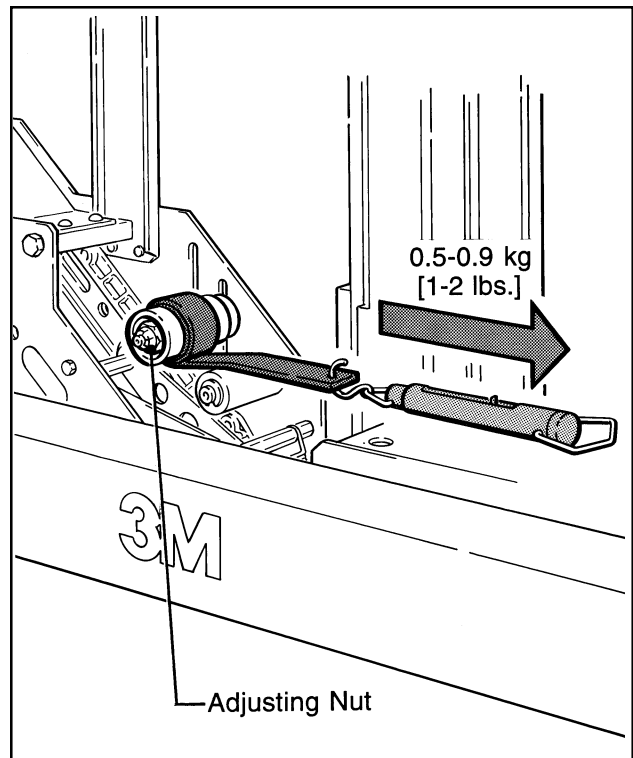

Figure 5-5—One-Way Tension Roller
1. Wrap a non-adhesive cord or small strap 4-6 turns around the tension roller as shown in Figure 5-5.